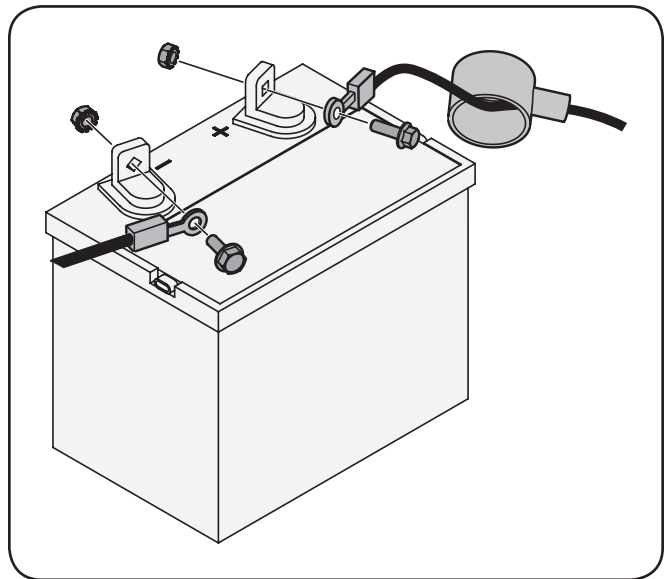

Figure 3-11
2. Remove the plastic cover, if present, from the positive battery terminal and attach the red cable to the positive battery terminal (+) with the bolt and hex nut. See Fig. 3-11.
3. Remove the plastic cover, if present, from the negative battery terminal and attach the black cable to the negative battery terminal (-) with the bolt and hex nut. See Fig. 3-11.